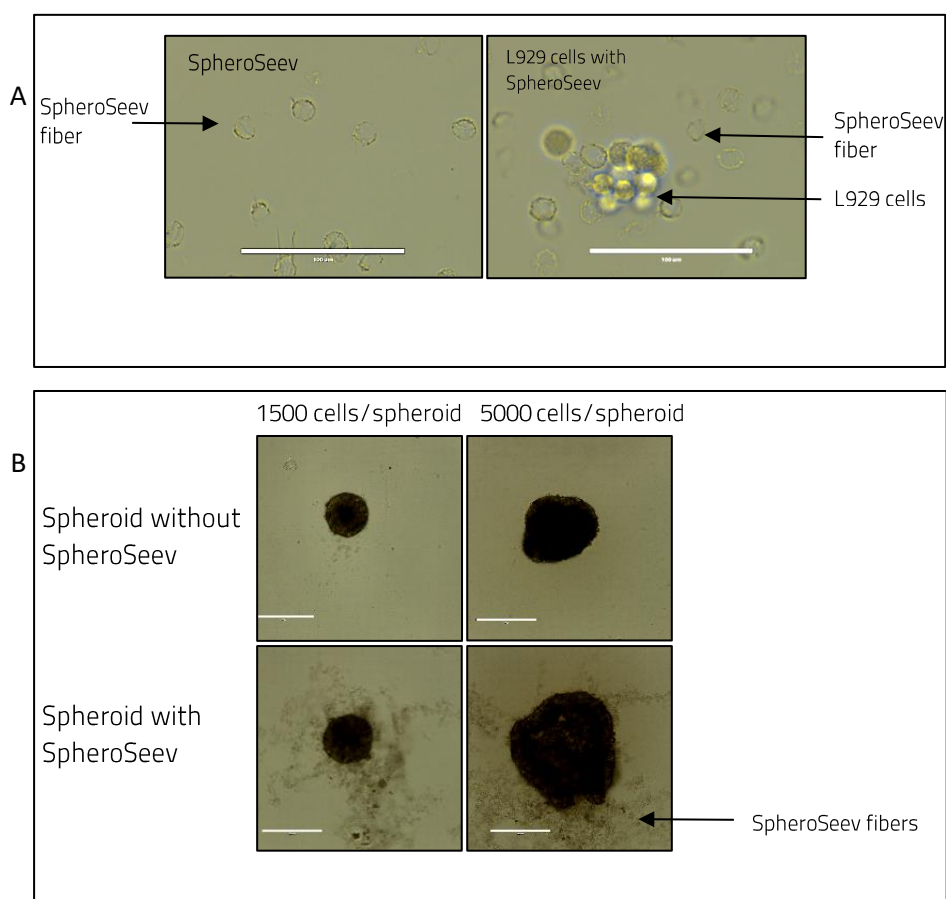

Figure 2:
2. **(Only for proliferating cells)** Prepare the maintenance medium by adding 2µg SpheroSeev per 1mL. Concentrations may need further optimization by the user. It is recommended to replace the medium if there are no excess free fibers in the medium (fibers should be visible under a light microscope - see Figure 2).
SpheroSeev fibers are visible under a light microscope (see Figure 2).